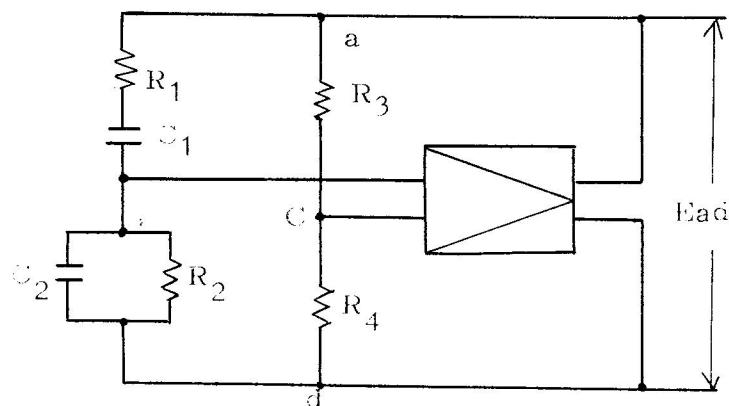

Fig. 2 Wien bridge oscillator circuit
Among low frequency oscillators, RC oscillators which employ R and C as frequency-determining elements are most common. Among RC oscillators, Wien bridge type is most popular. The Wien bridge has many advantages over other oscillation circuits. Its frequency is easily variable, and it operates stably and provides an output signal waveform with very small distortion. The Model 418 RC Oscillator also employs a Wien bridge circuit. The operating principle of the Wien bridge oscillator circuit is shown in Fig. 2.
Referring to Fig. 2, the phase of E_{bc} becomes the same with that of E_{ad} when the below condition is satisfied.
It is very difficult for the circuit of Fig. 2 to satisfy constantly the condition of equation (4). Oscillation will not start if the condition of equation (4) is satisfied from the beginning. The conditions of oscillation are determined by equations (1) and (3), and they are not related with the oscillation amplitude. Therefore, the condition of equation (3) must be maintained until the oscillation builds up to the required amplitude and, then, the circuit must satisfy the condition of equation (4). To accomplish this requirement, the resistance of R3 or R4 must automatically vary in response to the oscillation amplitude. This is accomplished by using a thermistor as for R3.